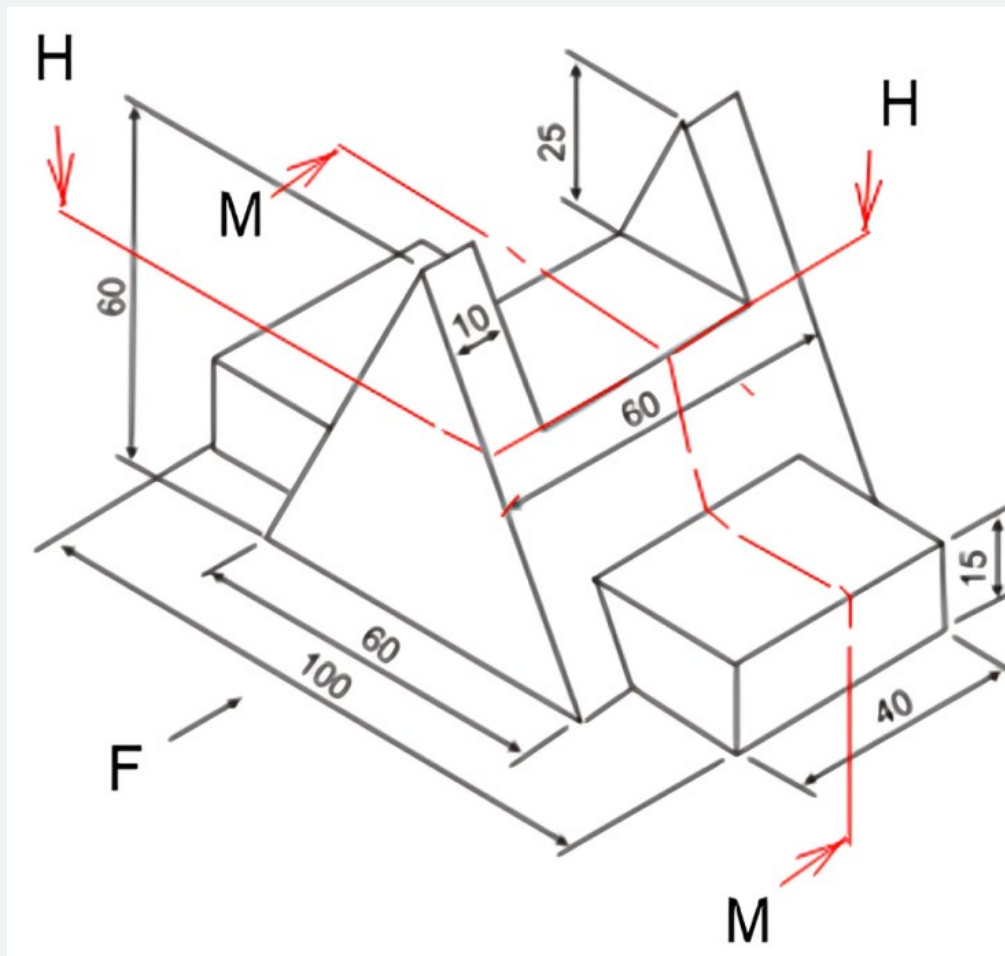

Figure 3.2.31: An engine component
3. Figure 3.2.31 is an engine component. Draw in first angle projection the following views: